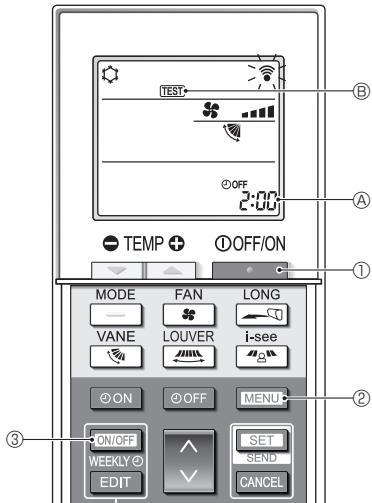

Fig. 7-5
7.2.2. Using wireless remote controller (Fig. 7-5)
■ Test run (Fig. 7-5)
- Press the button ① to stop the air conditioner.
- If the weekly timer is enabled (**WEEKLY** is on), press the button ③ to disable it (**WEEKLY** is off).
- Press the button ② for 5 seconds.
- Press the button ②.
- TEST** ② comes on and the unit enters the test run mode.